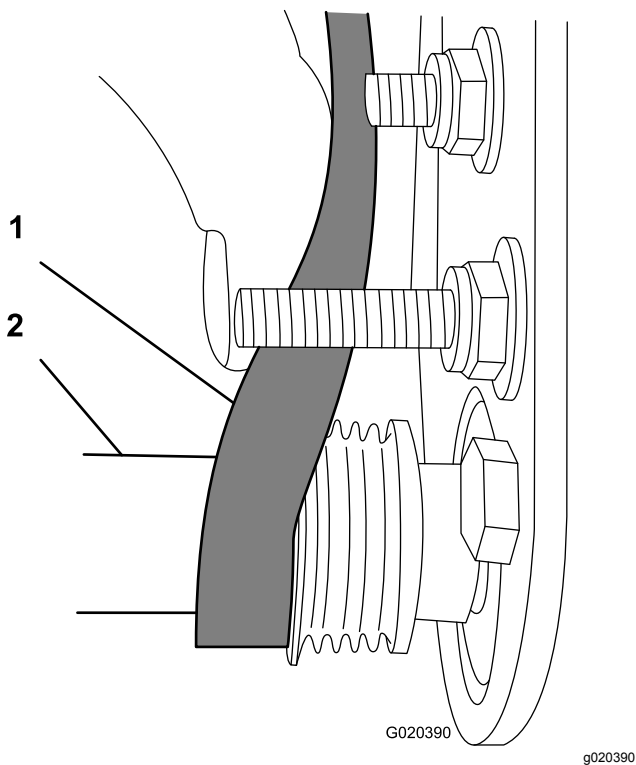

Figure 23
- Use a 9/16 inch deep-well socket to rotate the brush assembly and guide the belt onto the driven pulley (Figure 23).